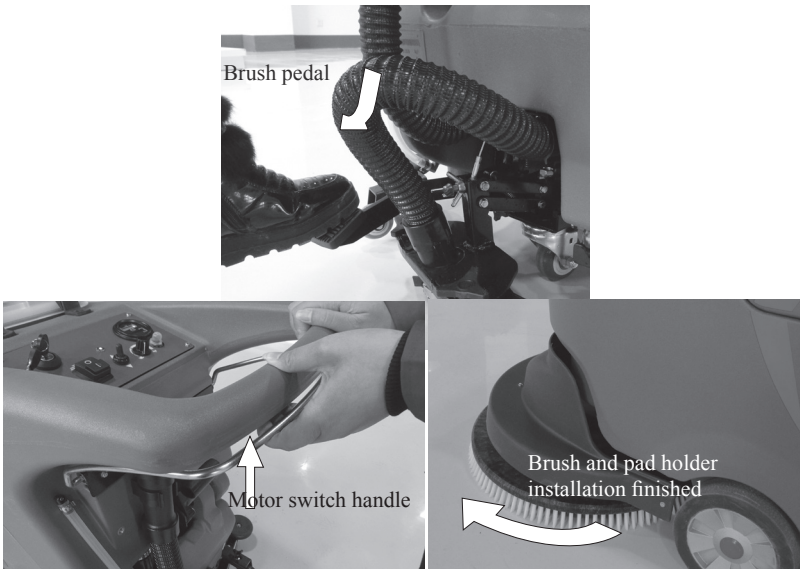

Figure 12
- Push the lifting pedal down while moving it to the left (as indicated by the arrow), press brush motor switch button and hold motor switch handle to finish installing the brush or pad holder (Figure 12).